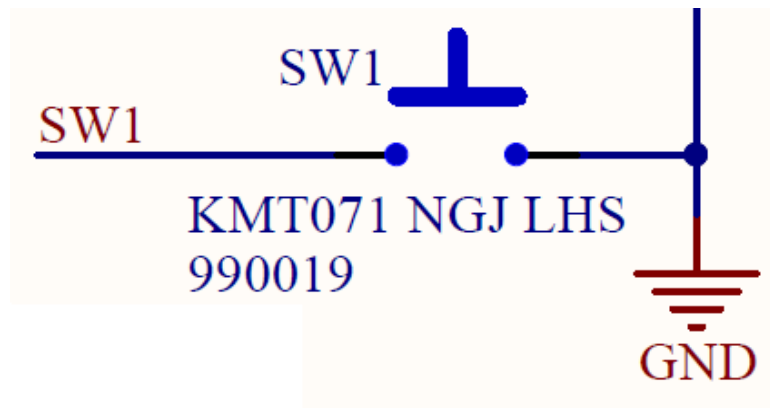

Figure 3-6: Button Schematic
There is one (1) button available for user input. The button is NO (Normally Open) and the processor enables an internal pullup so the button is an active low device as shown in Figure 3-6.